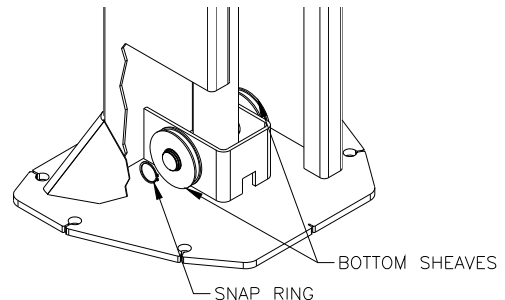

Fig 6-Lower Sheaves
15) To install the cables around the bottom sheaves, remove the snap rings holding the sheave in place and disassemble, **Fig 6**.